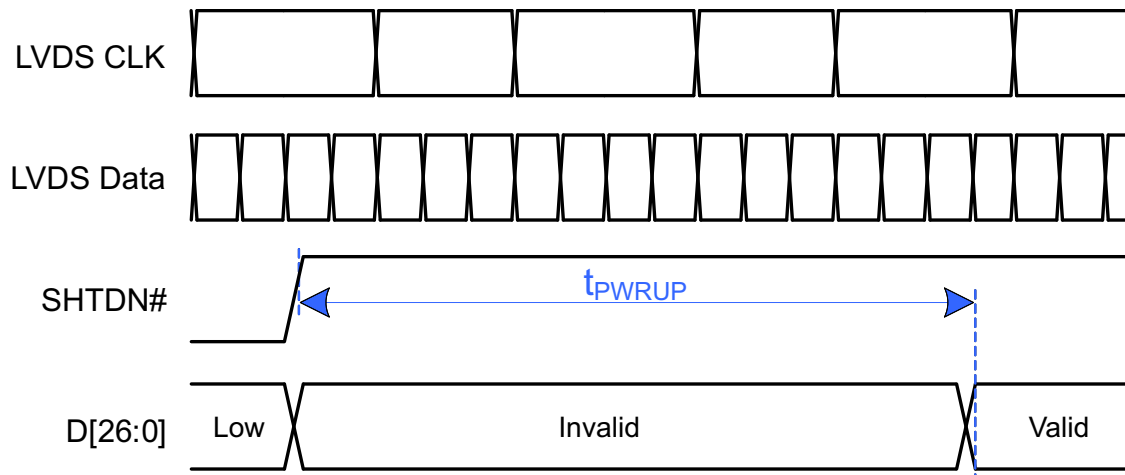

图 5. Time to Exit Shutdown Mode
(1) Grayscale and 1010 test patterns are described by 图 5 to 图 6 and 表 1 to 表 2.
(2) Standby Mode can be entered in two ways: f_{CLK} = zero to 500 kHz, or a high V_{CM} on the LVDS clock. If the LVDS transmitter device disables its clock driver to a high-impedance state, the SN65LVDS822's integrated R_{PU} will pull V_{CM} high for the lower-power Standby state.